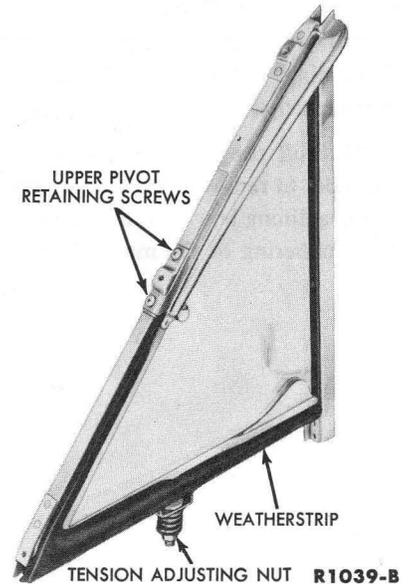

FIG. 3—Vent Window Assembly
3. The upper pivot mounting holes are slotted to help provide a weather-proof fit of the glass frame within the vent window frame (Fig. 3).